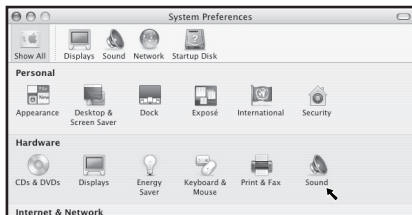

Figure 9
3. Next open the Sound preference (figure 9).